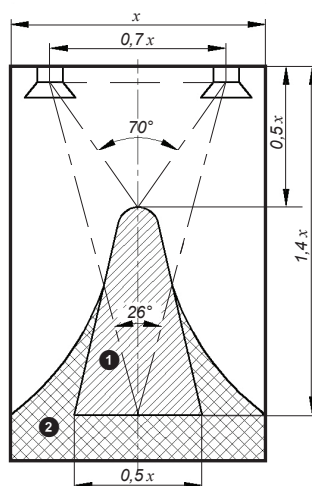

Fig. 1. MSS location scheme
• Installation of STUDIO speaker system graded as Hi-Fi (High Fidelity) class system is one of the most important factors in achieving the best sound of the system. One should know that location of speakers affects tonal balance, intensity and quality of bass components, soundstage depth and width, midrange sounds transparency. On the one hand, the closer the speakers are placed to walls and corners, the more powerful the sound of the bass components is. On the other hand, the farther the speakers are located from walls, the better the soundstage depth is rendered. Angular position and height of speakers' location in relation to the listener affect the timbral balance formation (especially, treble), soundstage width, and acoustic image focusing. Therefore speakers are best located along the shorter wall of the room. The listener and the speakers should be located in the corners of an isosceles triangle as shown in the scheme, Fig.1 where optimal ① and partial ② stereo effect zones are shaded. Angular position and height of the speakers' location in relation to the listener should be defined by experiment. The axes of the speakers should not intersect within the area where the listeners are located.